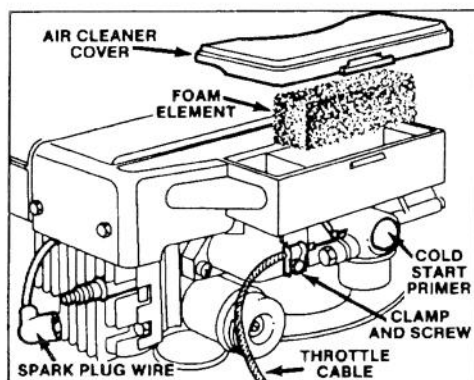

Figure 15
Before starting engine when temperature is below 50° F (10° C), push cold start primer 5 times (Fig. 15), pausing 2 seconds between each push.
2. Lift off air cleaner cover and clean thoroughly (Fig. 15).
3. If top of foam element is dirty, remove it from air cleaner body (Fig. 15). Clean thoroughly.
1. Stop engine and pull wire off spark plug (Fig. 15).
2. Clean around spark plug and remove plug from cylinder head (Fig. 15).
4. Loosen cable clamp screw until throttle cable slides (Fig. 15). Move carburetor control arm as far to the left as possible. Pull throttle cable slightly to remove any slack and tighten cable clamp screw to lock adjustment in place.